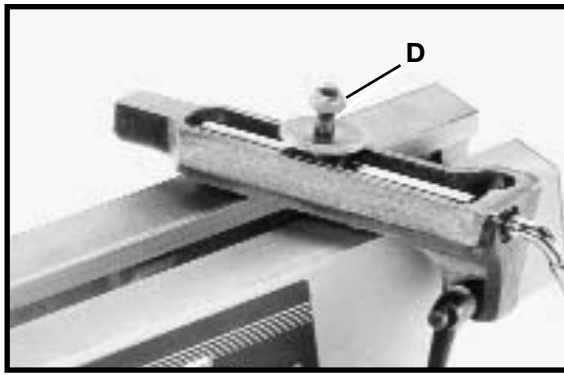

Fig. 6
2. **IMPORTANT:** If clamping action on the tool rest base (B) Fig. 5 is too tight or too loose on the lathe bed, remove the base and turn nut (D) Fig. 6 clockwise to tighten clamping action, or counterclockwise to loosen clamping action. Attach the tool rest base on the lathe bed.